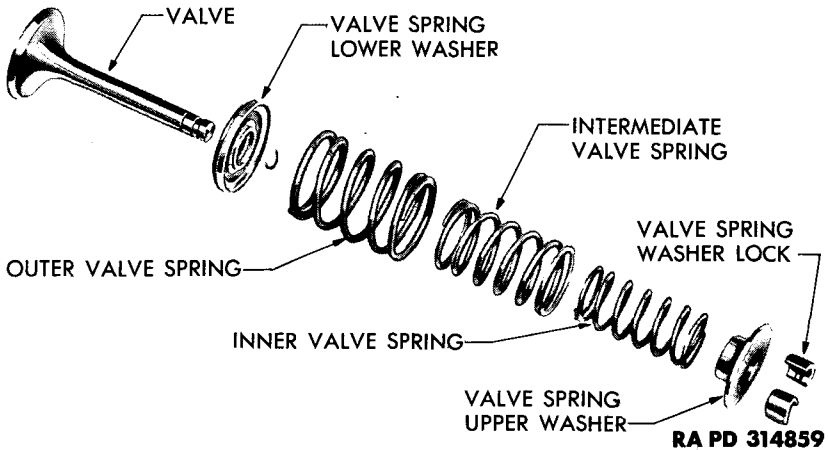

Figure 108 – Valve Assembly – Disassembled
(8) **VALVE SPRINGS, WASHERS, AND LOCKS** (fig. 108). Inspect valve springs for cracks, scores, pitting, and breakage. Test the tension of each spring in a valve spring tension testing machine. Discard any outer spring with a tension less than 90 pounds, at a spring height of 1.34 inches; any intermediate spring with a tension less than 69 pounds, at a height of 1.40 inches; and any inner spring with a tension less than 35 pounds, at a height of 1.32 inches (Table of Limits). Give valve spring washers a magnaflux inspection for cracks. Inspect washers visually for burrs and excessive wear. Inspect valve spring locks for cracks, burrs, and wear. Replace unserviceable springs, washers, or locks.
b. **Install Valves.** Apply engine oil liberally to valve stems (fig. 108). Insert intake and exhaust valves in position in their respective guides. While holding valves, place cylinder assembly on valve assembly fixture or block. Make sure lower valve spring retaining washer is in place in cylinder head. Install circler on upper end of both valve stems. Position three valve springs around each stem with upper ends in retaining washer. Compress valve springs (par. 23 c). Insert split valve locks. Release spring compressor carefully. Install remainder of valves in same way.